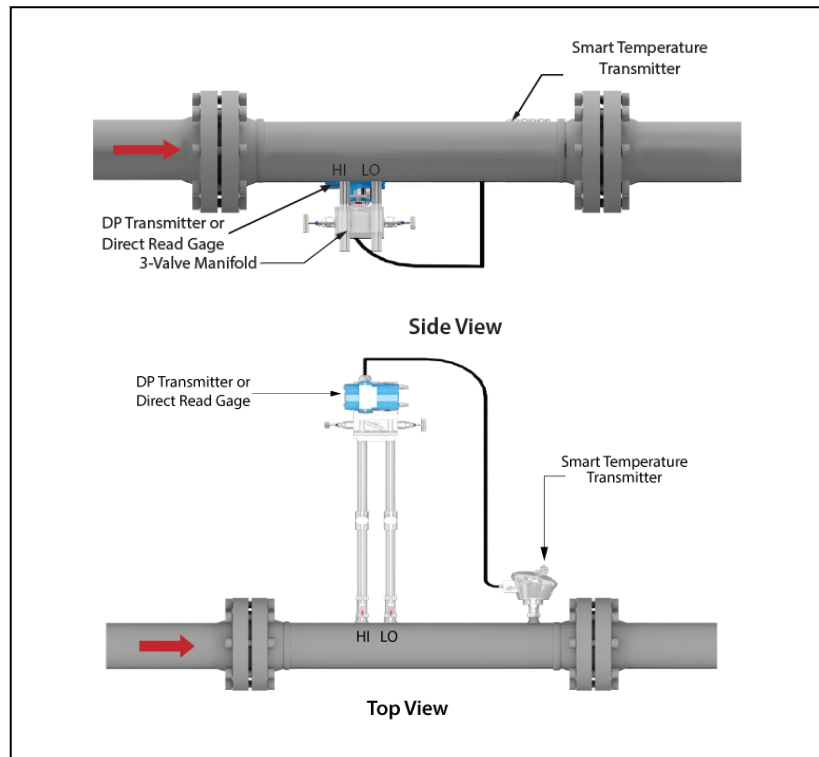

Fig 20: Horizontal Installation for Steam
- The pressure taps should be on the center of the horizontal line (3 o'clock or 9 o'clock) of the primary device. In condensing hot vapor service, such as steam, the fluid in the impulse lines is liquid condensed from the vapor. In this case, the pressure taps should be horizontal with the impulse lines and positioned to the DP transmitter, as shown in figure 20.
- There is a concern that before the lines fill with condensed liquid and cool, the secondary system will become exposed to the vapor temperature at start-up. In this case, it is wise to have a plugged tee fit in the impulse line to allow the liquid (water for steam service) to be filled with the impulse line and secondary unit before starting up (see Figure 20).